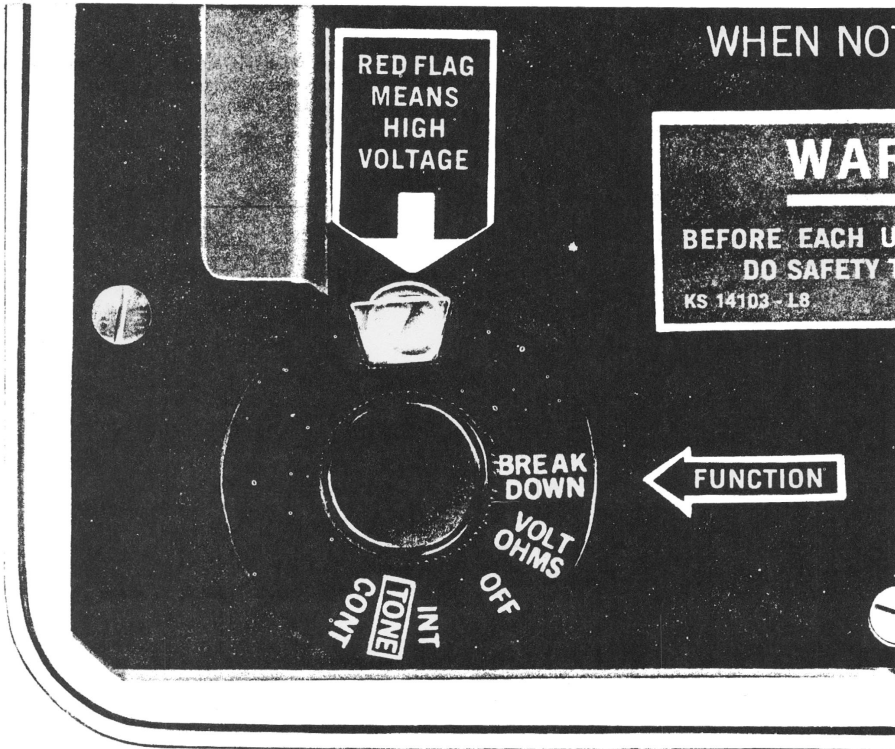

Fig. 16—Indicator Flag On L8 Control Unit
*Should indicator flag show red (Fig. 16) when connections are made and HI VOLT switches are not pressed, PULL SAFETY PLUG IMMEDIATELY, DO NOT ATTEMPT TO USE. Both units should be returned for repair.*